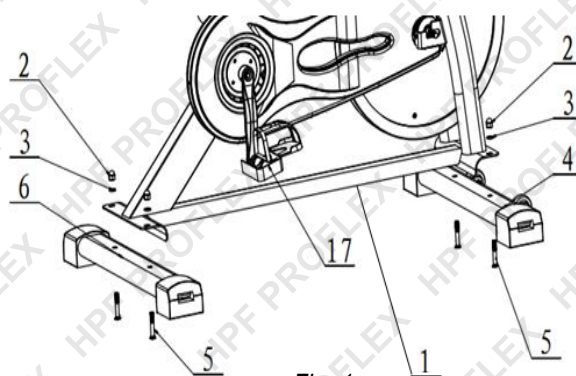

Fig. 1
2. See Fig. 1. Attach the front foot (4) and rear foot (6) to the frame (1) using 4 coach screws (5), curved washers (3) and cap nuts (2). Ensure that the square holes are facing the ground and the front foot is at the front of the bike, with wheels facing forward. Ensure the washers follow the shape of the tube when installed. Tighten (rotate right) the nuts using the supplied spanner.